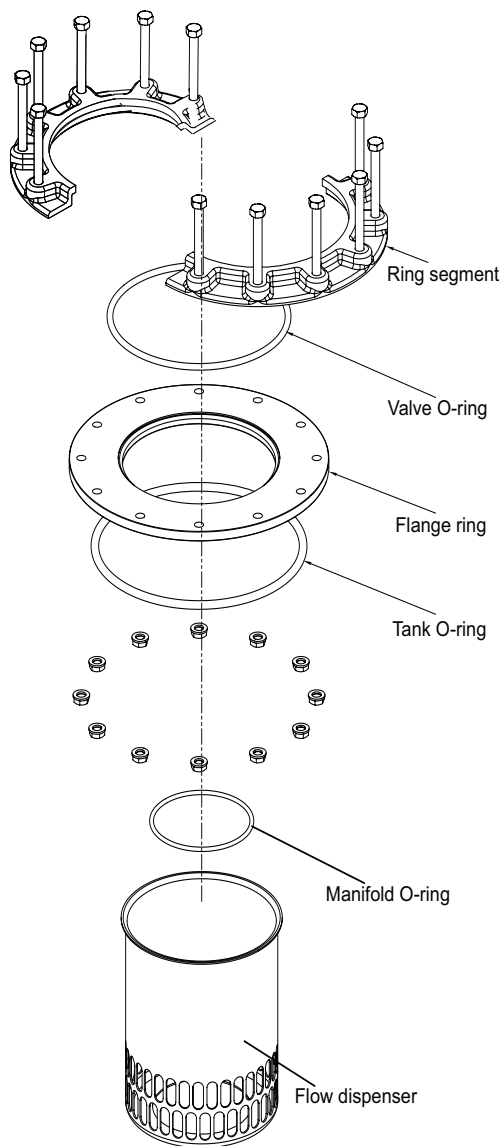

Figure 7. Hi-Flo 3e valve.
15. Place the flange segments over the lip of the valve and line up with tank flange holes. See Figure 7.